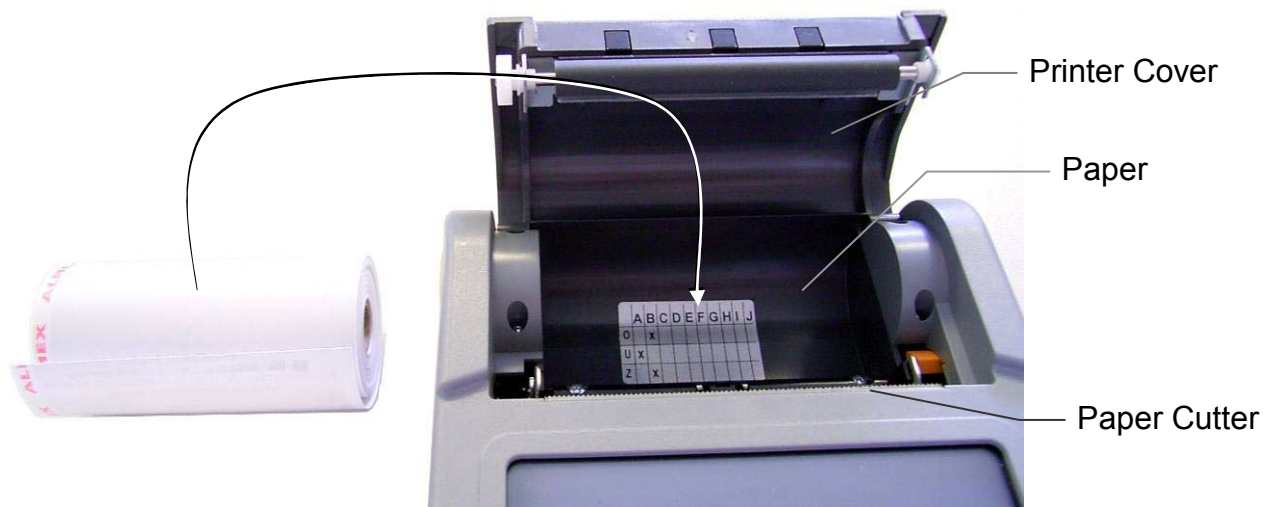

Fig. 22: Inserting the paper roll
4. Insert the new paper roll as shown in Fig. 22.